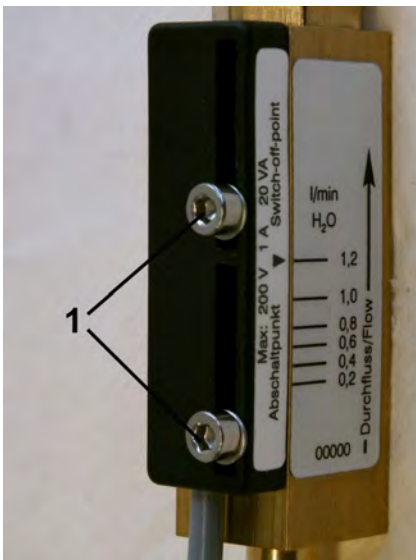

Fig. 17: Loosen set screws (example switch point adjustment scale)
1. ➔ Loosen the set screws of the switch contact (Fig. 17/1) using a Hex screwdriver.
3. ➔ Tighten the set screws of the switch contact (Fig. 17/1) using a Hex screwdriver. When doing so, observe the correct tightening torque of the screws.